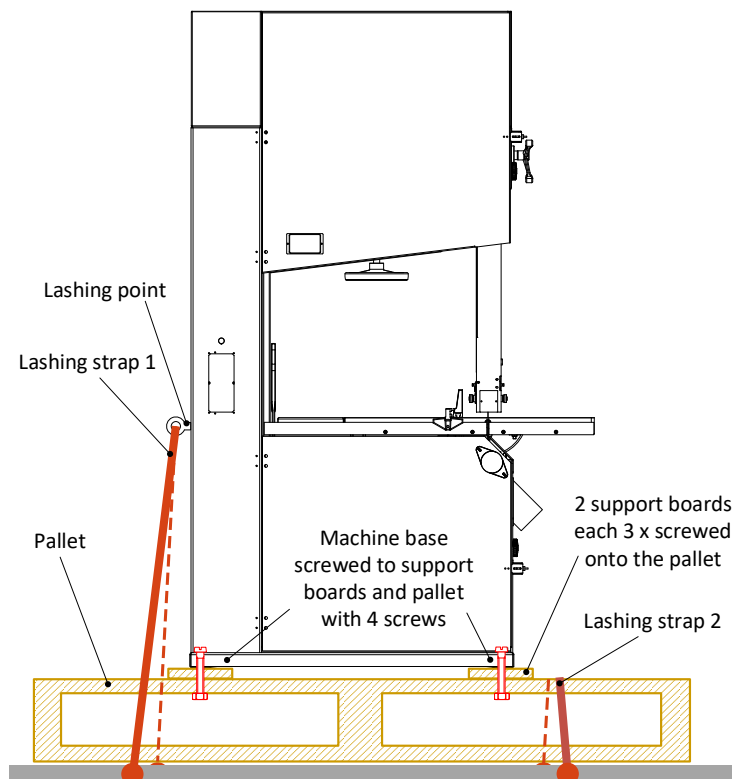

Figure 8: Lashing the bandsaw for transport
- For this, there is a lashing point for lashing strap 1 on the left machine column (see ⇒ Figure 8). The pallet is directly lashed with lashing strap 2.